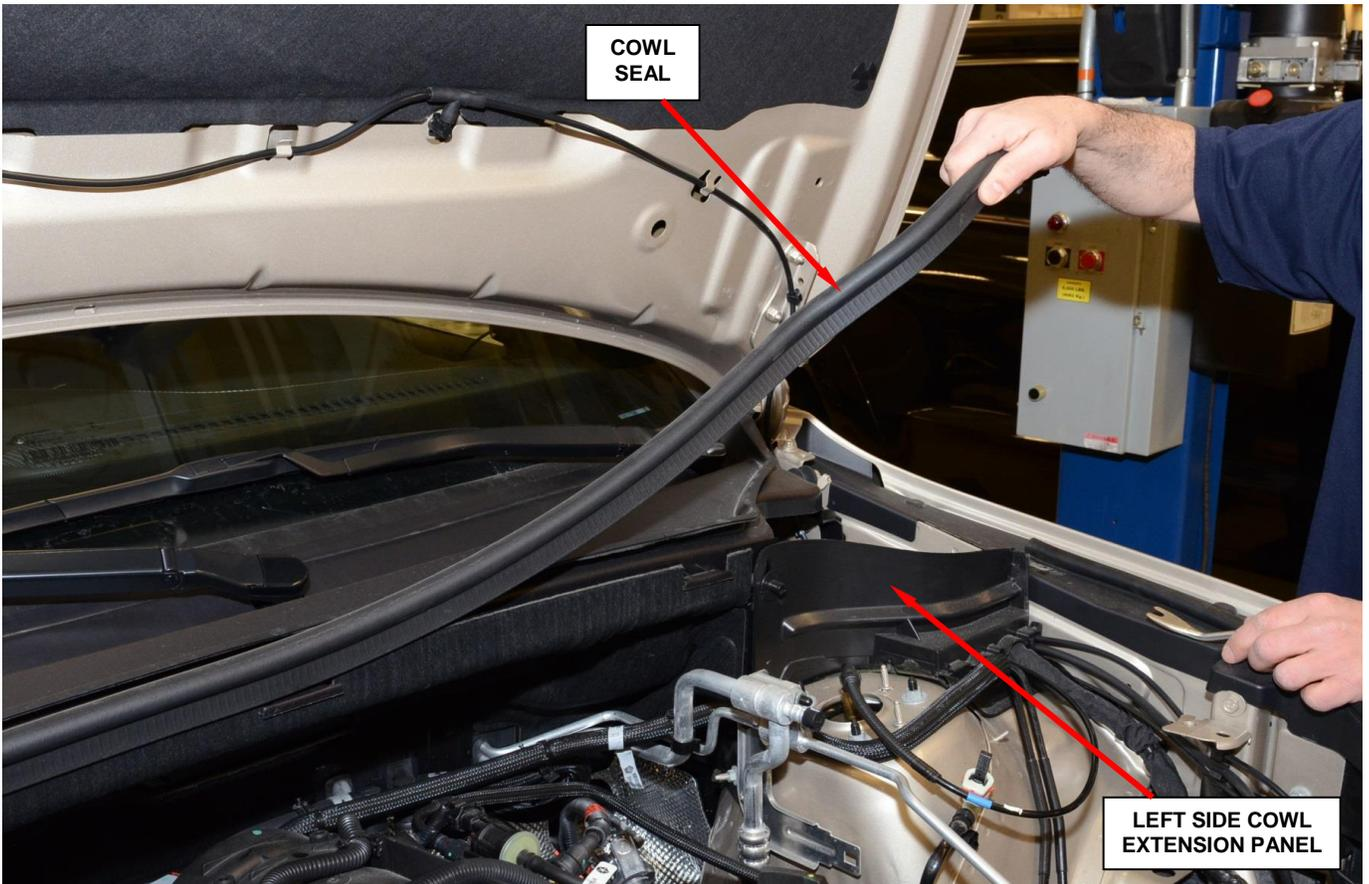

Figure 4 – Cowl Seal
7. Remove and save the cowl seal (Figure 4).
8. Remove and save the left side cowl extension panel (Figure 4).
31. Install the left side cowl extension panel (Figure 4).
32. Install the cowl seal (Figure 4).